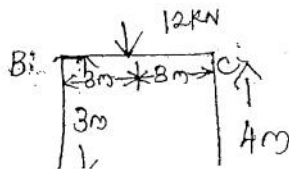

Figure-6
6. Analyse the frame shown in figure-6 by the flexibility of matrix method. Take EI as constant.